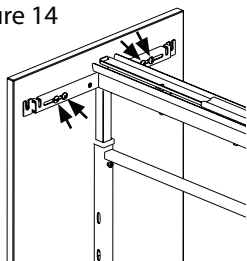

fig. 14
**16)** The next adjustment is left to right. Loosen two screws on each T type door mount bracket. Slide the door left to right so that the overlay is the same on both sides. Tighten both screws on each bracket. Once this adjustment is final, use two (#7) screws to lock the door in place. Refer to figure 14